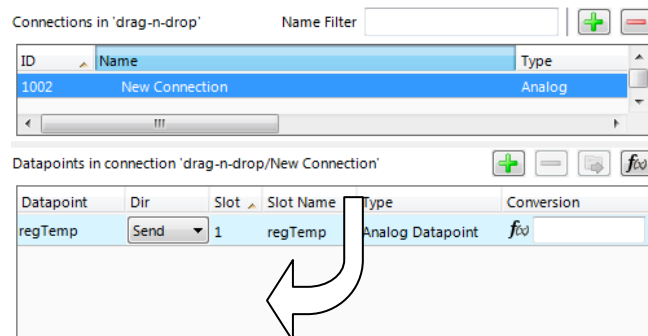

Figure 19: Modify connections in the properties view.
2. In the properties view below the data point list click on the **Local Connections** tab and select an existing connection as shown in Figure 19.
3. Drag the selected data point and drop it into the empty area of the **Datapoints in connection** list as shown in Figure 19. This adds the data point to the selected connection.